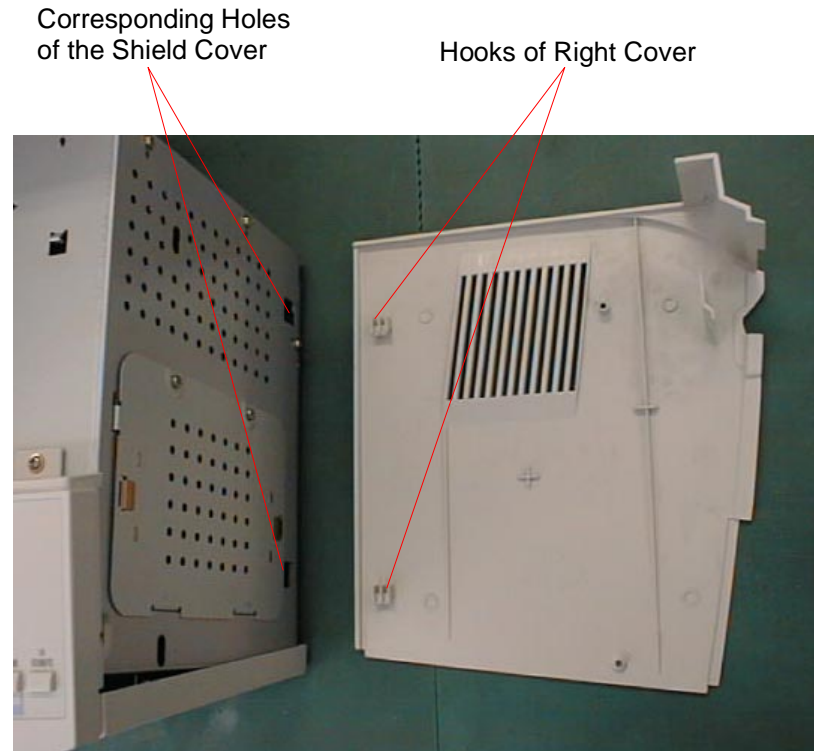

Figure 4-4. Installing the Right Cover
*When assembling the right cover, attach it so that two hooks of the cover can match with the corresponding holes on the printer side (shield cover). Refer to figure4-4.*